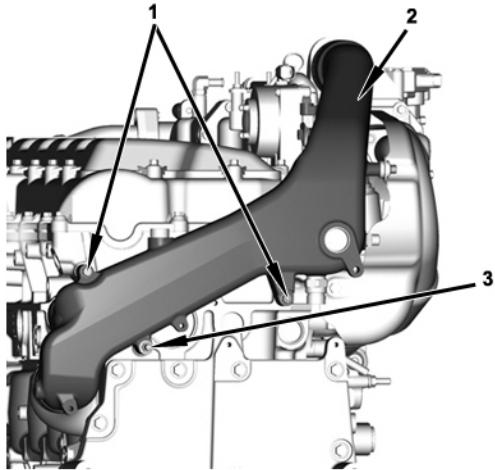

Figure 32 Coolant Manifold
9. Install coolant manifold (1). Install two M8 x 45 bolts (2), one M8 x 50 x 16 stud bolt (3), and torque to 26 lb-ft (35.2 N•m) (Figure 32).